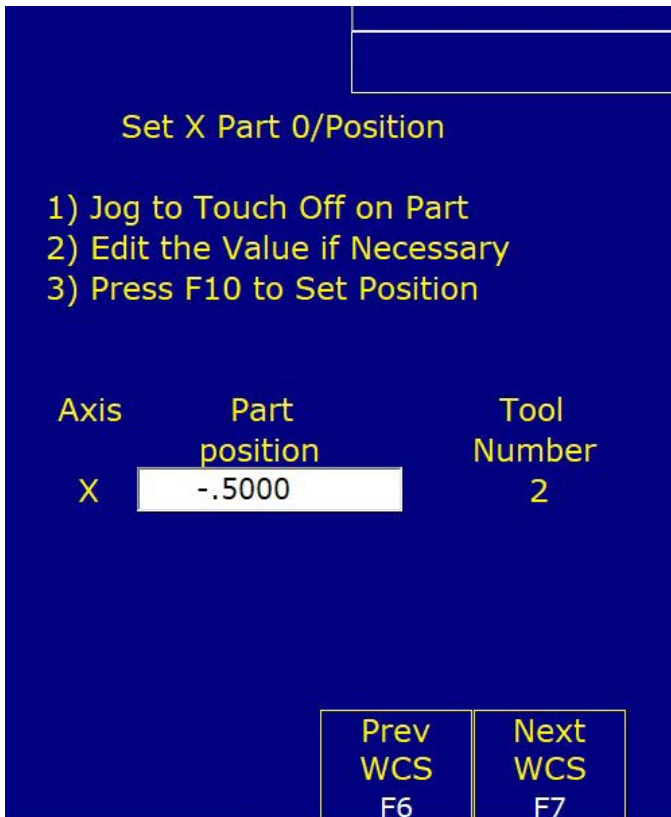

FIGURE 11
5. Now this is important. The actual diameter is measuring .5000. However, tool #2 is a Rear tool. Therefore, the value that we enter for the X Diameter will need to be a Negative value to define which side of the part the tool is on. Click on the Part Position and enter (-.5000) (see Figure 11).